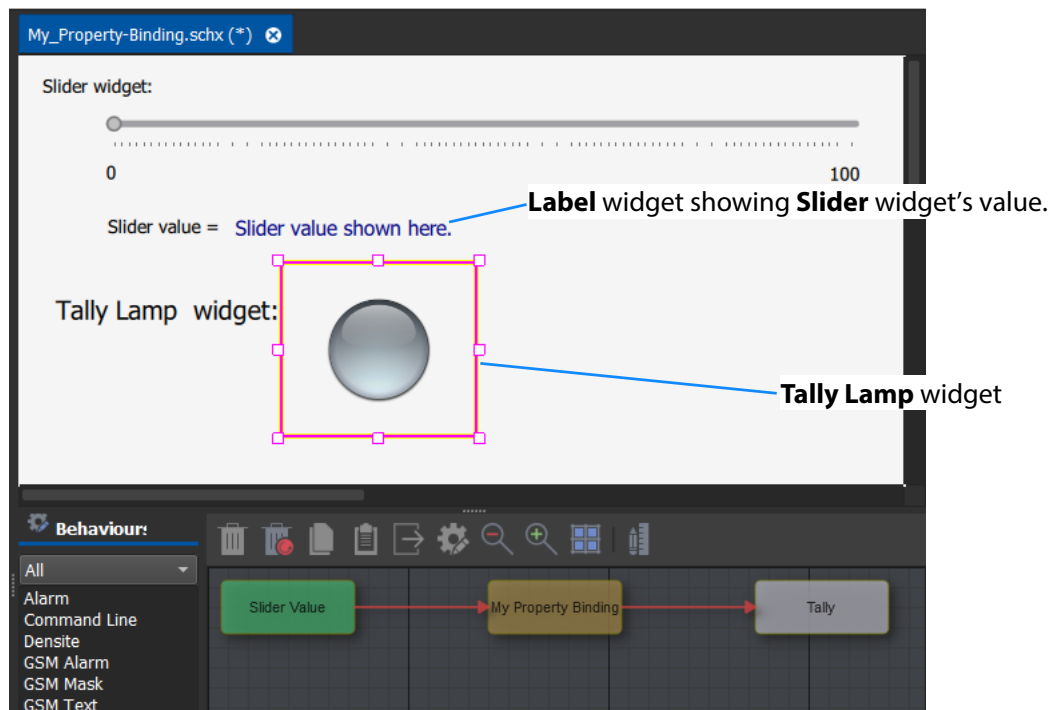

Fig. 7-7: Tally Lamp Added
- 12 Add a **Tally Lamp** widget to the screen. See Figure 7-7.